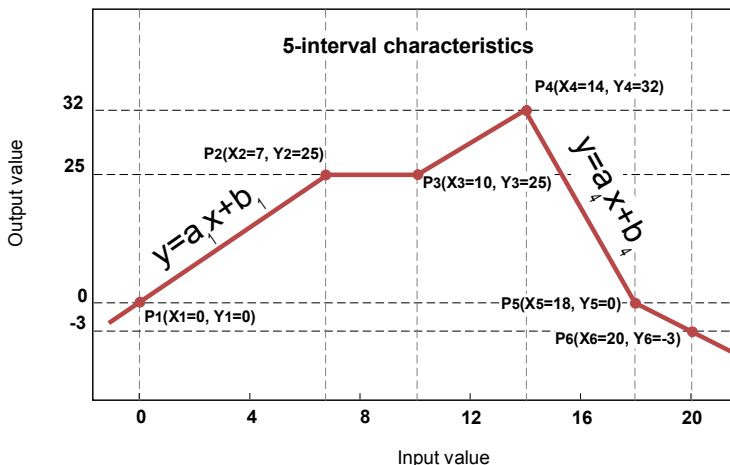

Fig. 7.31. Example of user characteristic
- d) **user characteristics** - is defined as set of X-Y points. Number of the points is variable and may be set from 2 to 20 points which make linear segments (see Fig. 7.31). For 2 points the user characteristic behaves like a linear process (see subsection **b**)). For more than 2 defined points the user characteristic is a composite of the line characteristics therefore for input value '**x**' the user obtain an output value '**y**' which is described by the relationship:
,where '**a**' and '**b**' are coefficients of a segment contained between two points (see Fig. 7.31), and **n = 1, 2 ..** is the number of the segment.